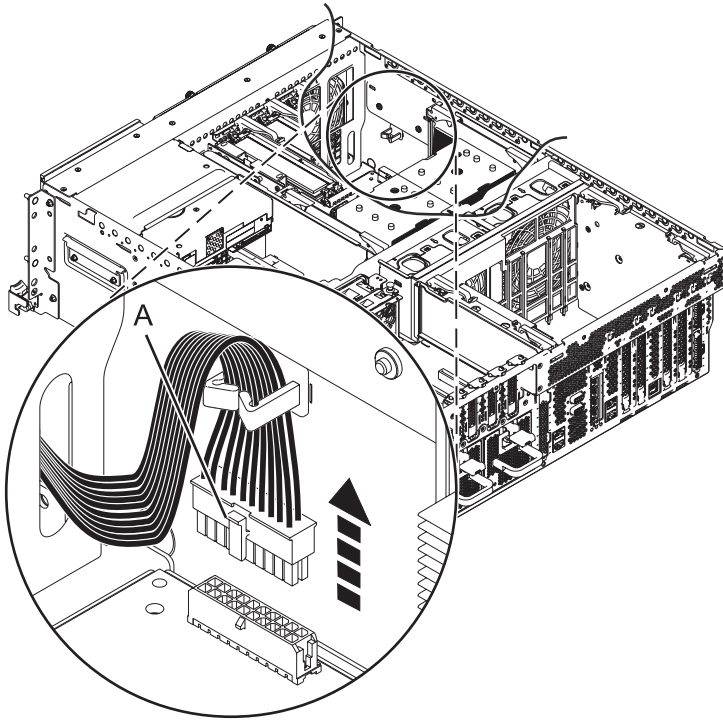

Figure 37. Disconnecting the front fan cable
30. Disconnect the front fan cable. See Figure 37 on page 62.